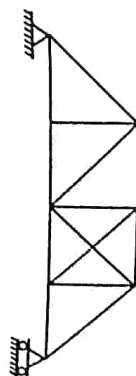

Fig. 20.
- b. Find static indeterminacy and kinematic indeterminacy of the given structure. See Fig. 20.
Given : Truss shown in Fig. 20.